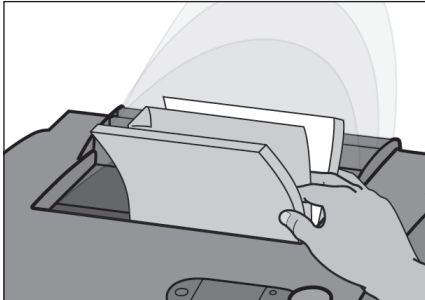

FIGURE 14
3. **Pinch Page Sections.** During the binding, pinch the front and back sections of the book, leaving the dog-eared page free. (fig. 14)